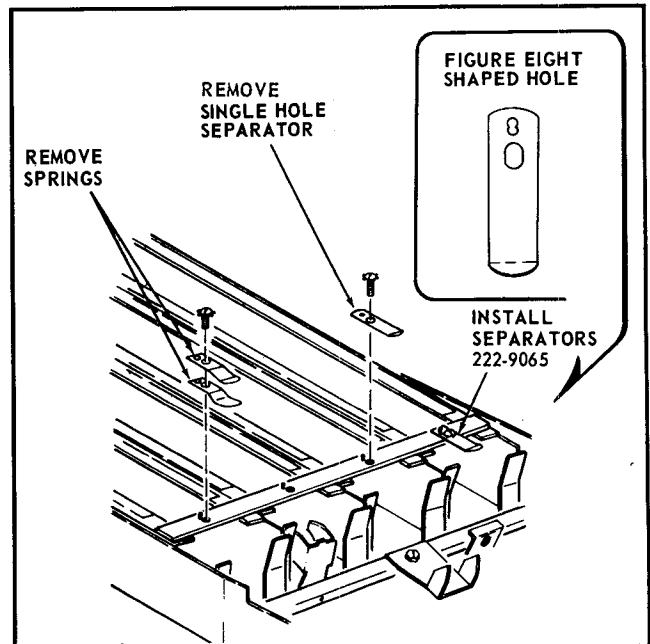

FIGURE 2
2. Lay the Assembly on a flat surface with the Springs up. See Figure 2.